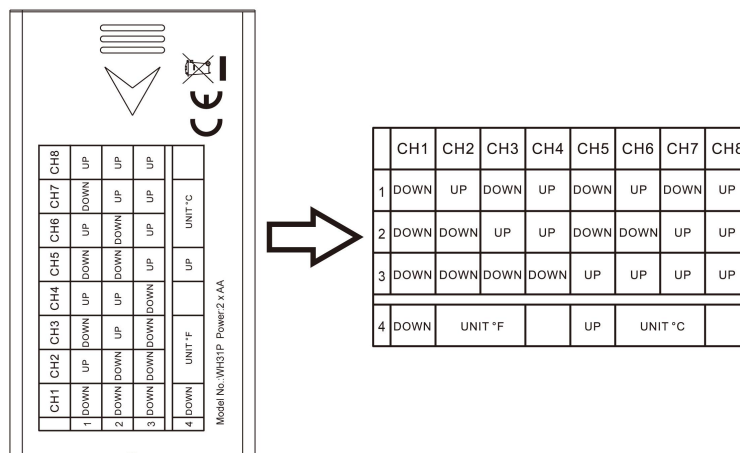

Figure 32
- 4 **Temperature Units of Measure:** To change the transmitter display units of measure (°F vs. °C), change Dip Switch 4, as referenced in Figure 32.